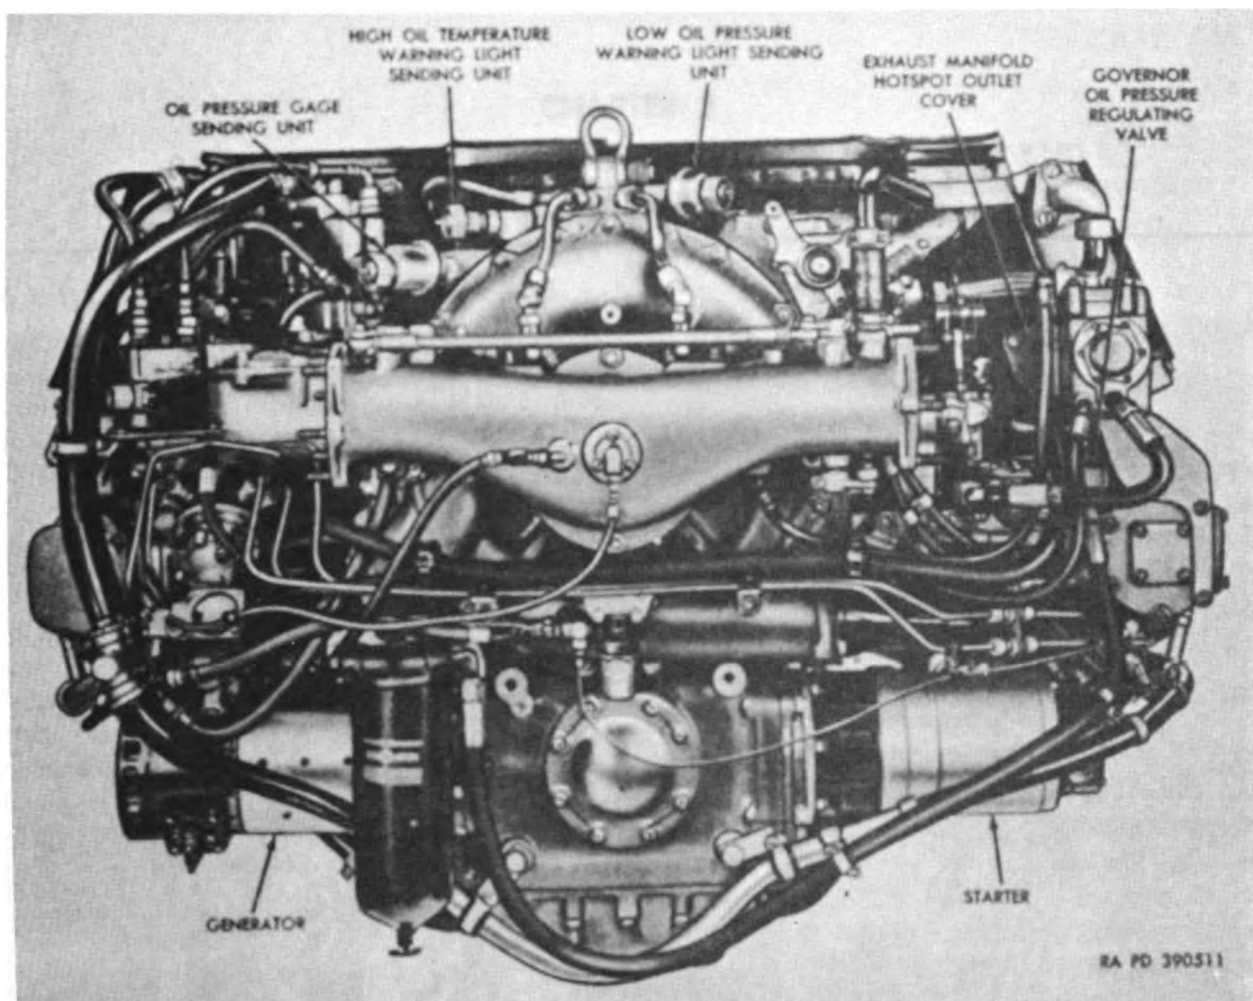

Figure 7. Model AOSI-895-5M engine—front view.
h. A generator (fig. 7) and starter are located on opposite sides of the accessory case near the bottom. A mechanically controlled, hydraulically operated governor is located on the right side of the accessory case and controls engine speed within predetermined limits.